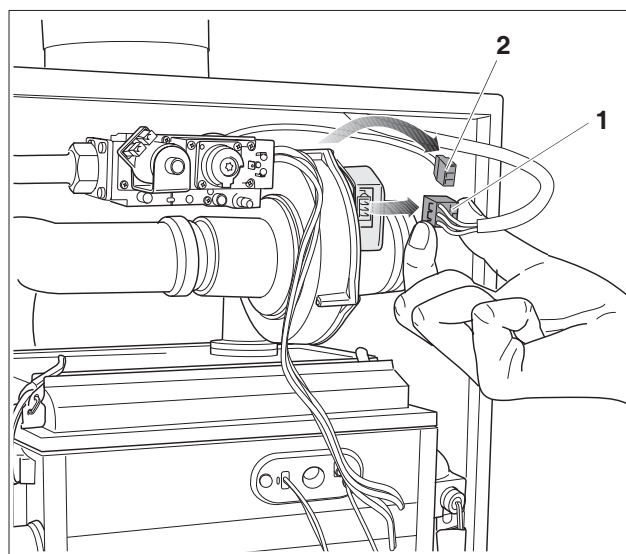

fig. 122 Removing the connectors from the fan
- Pull the mains connector (fig. 122, **item 1**) from the fan.
- Pull the connector of the harness (fig. 122, **item 2**) from the fan while pushing on the connector lock to loosen it.